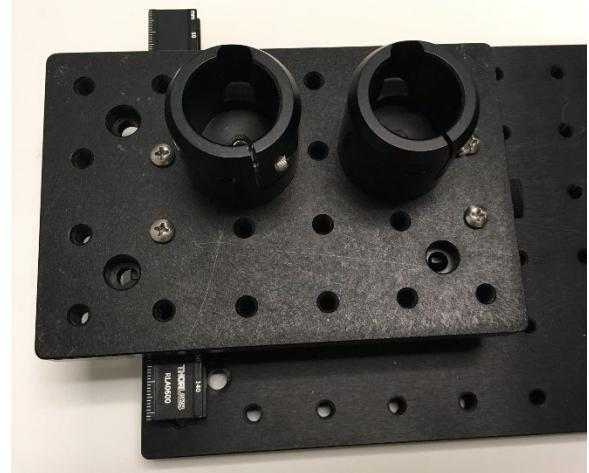

Figure 116 Finished camera platform
- See Figure 116 for the finished camera platform.